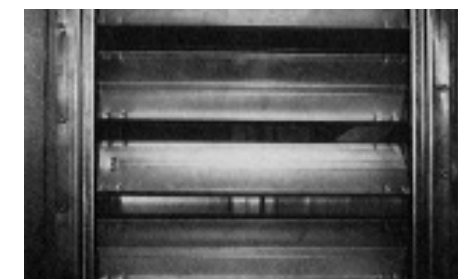

FIGURE 29. Be sure that damper blades open and close properly and have sufficient rotation clearance.
- 1) Check blade rotation clearance. Verify that blades open and close properly and rotate sufficiently. If they do not, check for obstructions, broken or bent blades, or loose linkage. Correct or repair as necessary (See **FIGURE 29**).